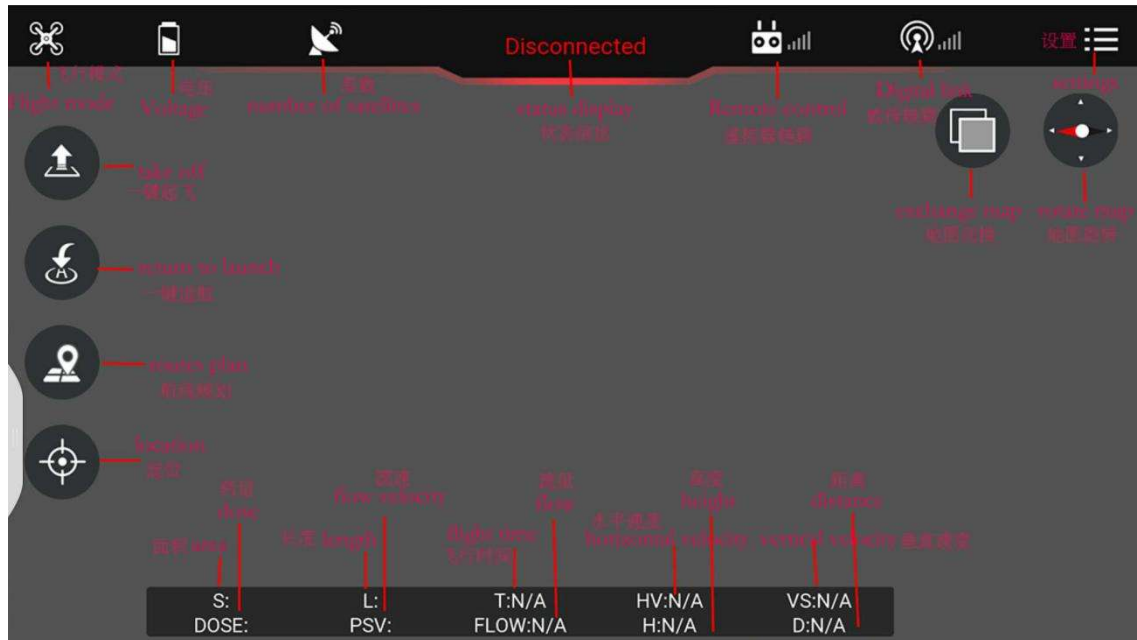

Figure 3-2
4. Enter into the main page ,see figure 3-2.